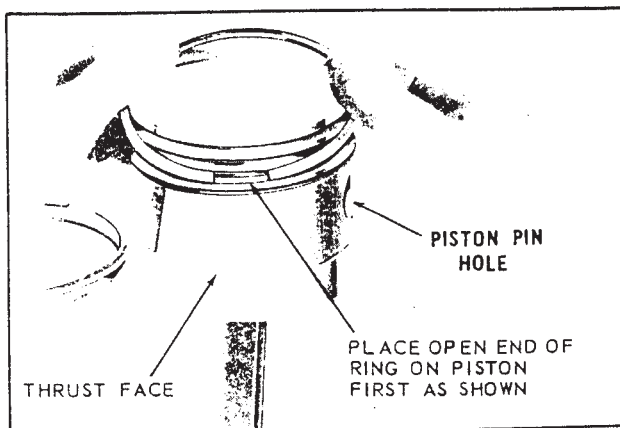

Figure 10-11. Piston Ring Installation
e. The piston skirt is cam-ground to an elliptical contour. Clearance between the piston and cylinder must be measured at the center of the thrust face of the piston skirt. Refer to figure 10-13 for proper clearance. The thrust faces on the piston skirt are 90° from the axis of the piston pin hole. (See figure 10-11.)
a. Install rings by placing the open end of the ring on piston first, as shown in figure 10-11. Spread ring only far enough to slip over piston and into correct groove, being careful not to distort ring.